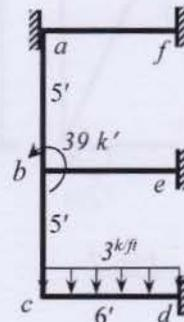

Fig. 4
- Use Stiffness Method considering geometric nonlinearity and flexural deformations only to calculate the unknown rotation at *b* and *c* of the frame *abcdef* loaded as shown in Fig. 4